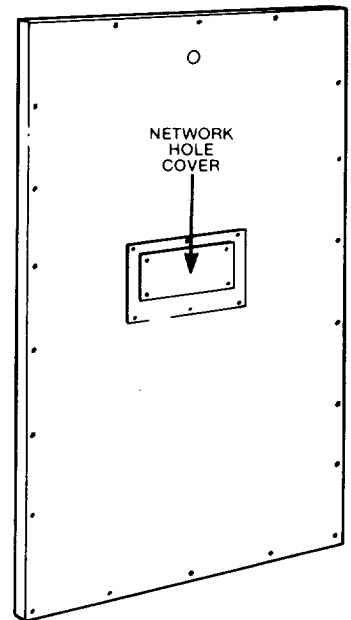

Figure 2. Rear Panel with Cover Plates Installed
3. Remove network hole cover from rear access panel. See Figure 2.